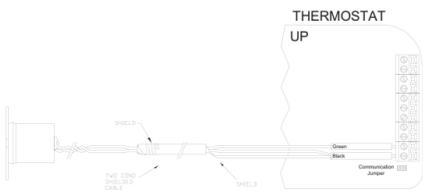

Figure 14 – Connections to a Remote Temperature Sensor
Make the connections to the Green and Black terminals under the section marked "Remote Temp Sensor" on the right terminal strip - See Figure 14.
- When connecting a remote temperature sensor, the shield and one of the wires from the remote temperature sensor are tied together and get connected to the Black terminal - See Figure 14.